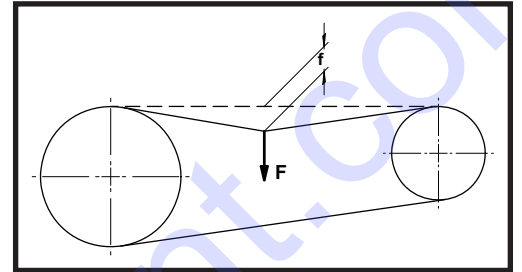

Fig.8
3. Loosen the 4 screws (ref.3, fig.7) securing electric motor mount and pull the belt (ref.5, fig.7) with the screw (ref.4, fig.7) if the tension is correct, applying a force of around F=1.5 kg at the centre of the belt's free section should displace it by around f=5 mm (fig.8).
5. Tension the belts (ref.5, fig.7) with the screw (ref.4, fig.7): if the tension is correct, applying a force of around F=1,5 kg at the centre of the belt's free section should displace it by around f=5mm (fig.8).